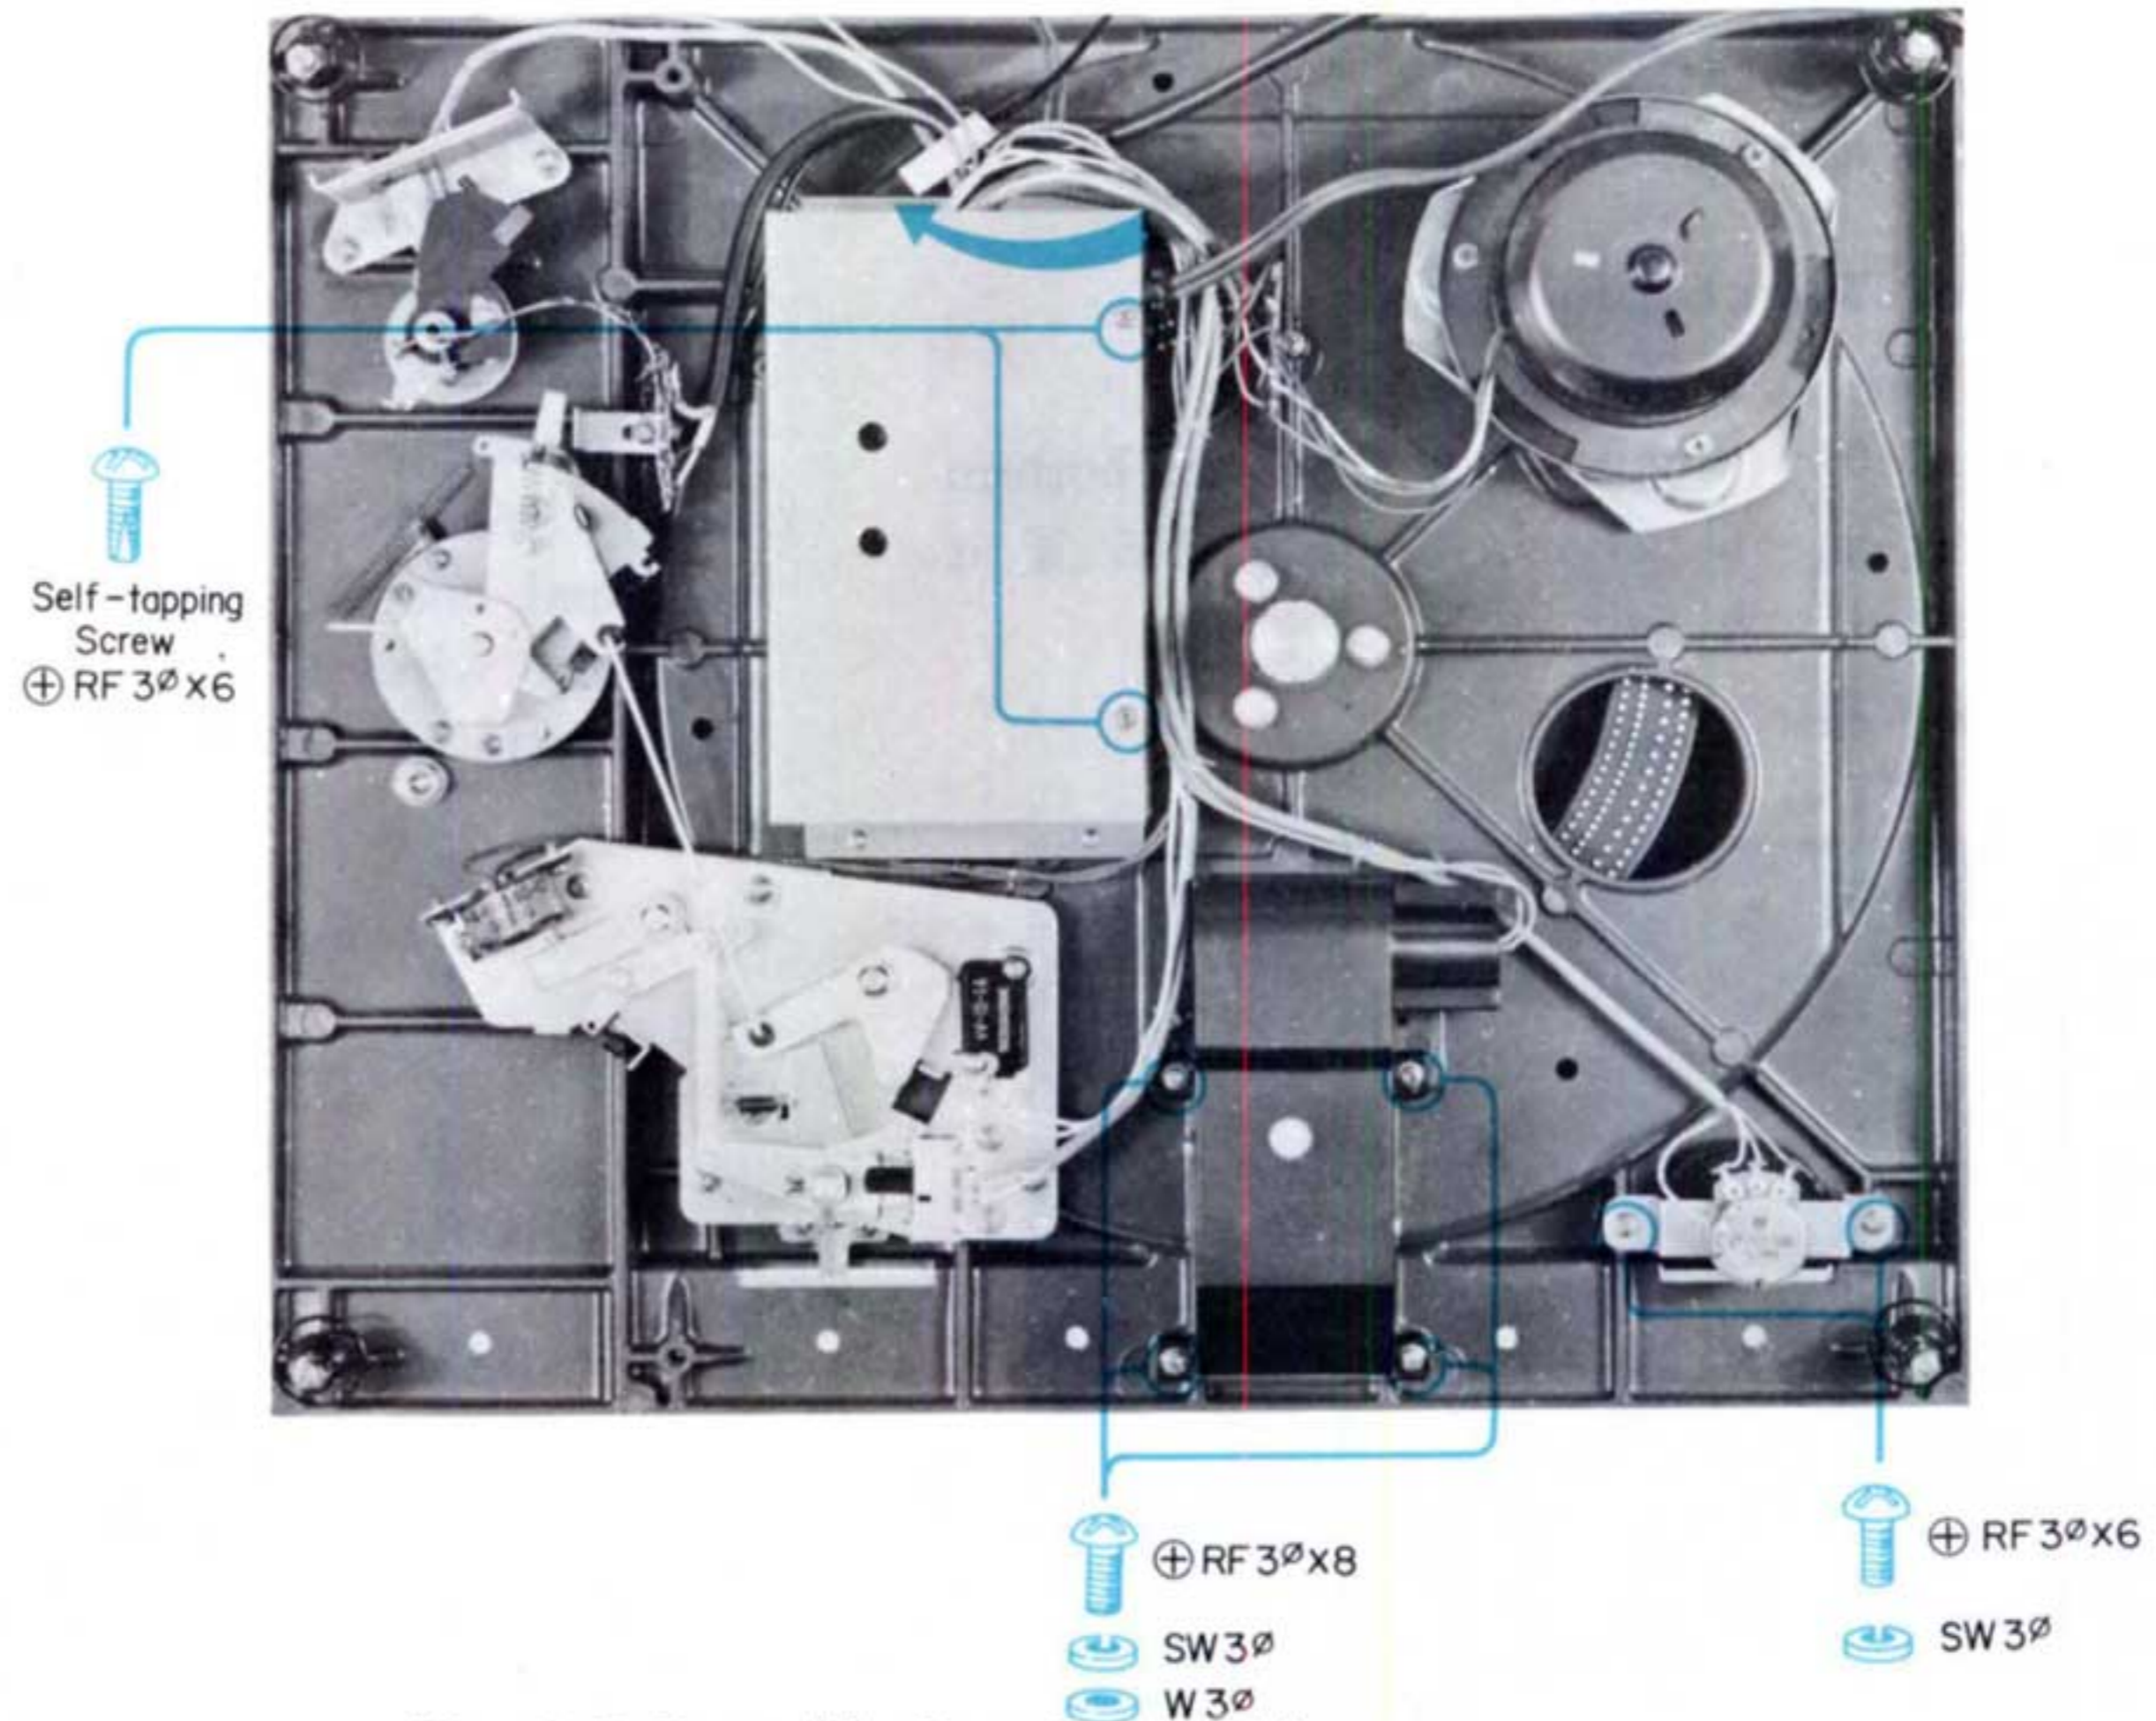

Fig. 2-9 Turntable Base Bottom View
2. Remove the two self tapping screws from the servo amp chassis as shown in Fig. 2-9.
3. Turn the chassis in the direction of the arrow in Fig. 2-9. Now the entire servo amp unit can be removed for service.
2. Remove the four screws (+RF 3φ × 8) that secure the strobe unit to the turntable base. See Fig. 2-9. Pull out the unit.
2. Remove the two screws (+RF 3φ × 6) from the bracket. Take off the bracket. See Fig. 2-9.